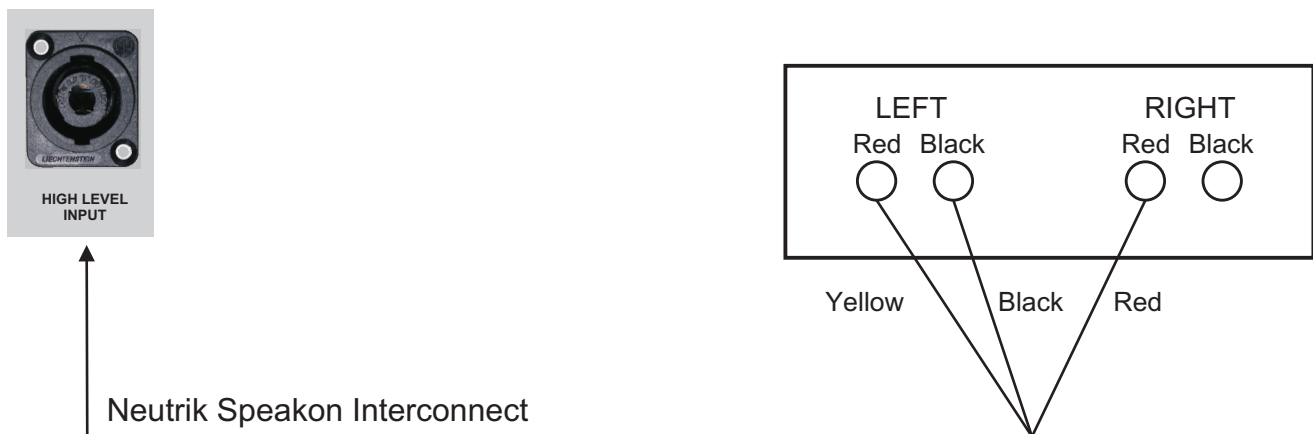

Figure 1.
Figure 1. Shows a diagram on how to connect the high level input. Using the optional Neutrik lead, connect the Monolith to the output of your amplifier via your existing speaker plug or to a spare set of speaker terminals if available. In effect you are Bi-Wiring your Monolith to your power amp. Please note that the Neutrik cable has only three leads and is arranged this way to preserve the star earthing of your amplifier (assuming it has a star earth arrangement).
- Connect your Monolith as shown in Figure 1 or Figure 2. Then attach your subwoofer to the power supply using the power cable supplied, at this point have the power switch in the off position.